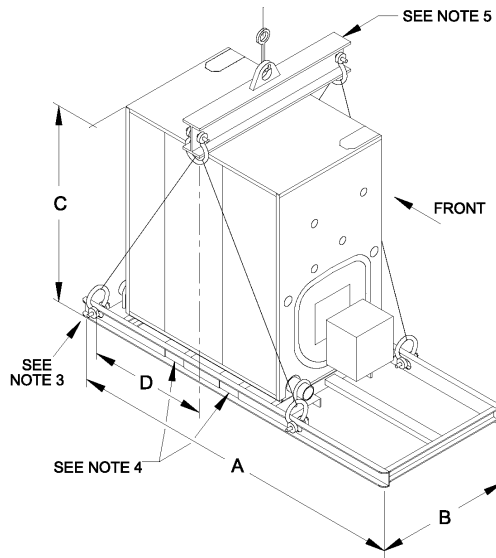

Figure 30: Shipping Information
1. The packaged boiler comes on its own shipping skid (see Figure 30) and the assembled block is hydrostatically tested at the factory. Once the boiler is in its final position, perform another hydrostatic test at 1½ times the working pressure of the boiler. The shipping skid can be used as a housekeeping